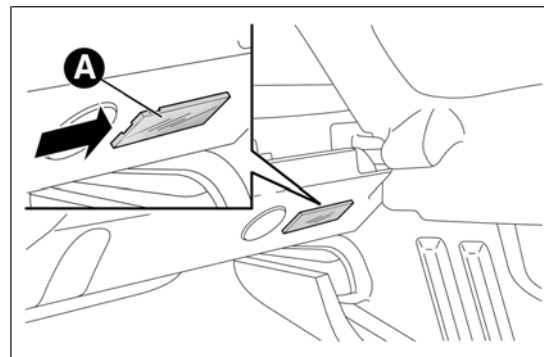

fig. 142
- open the luggage compartment and extract the roof light A fig. 142 working in the point shown by the arrow;
- refit the roof light A fig. 142 by inserting it in its correct position firstly on one side and then pressing on the other until it clicks into place.